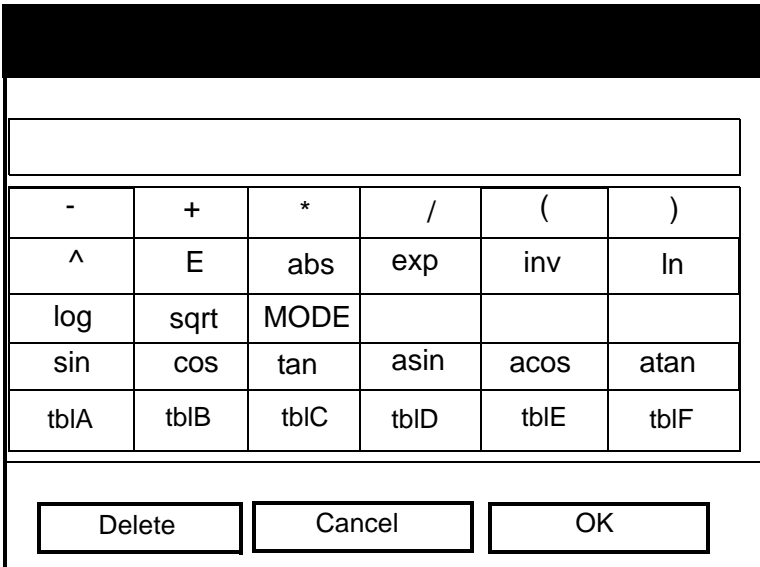

Figure 34: Function Creation Window
- d. When you have completed the label, press [F3] (OK) to confirm the label, or [F2] (Cancel) to leave the window without adding the label.
- c. When you have completed the label, press [F3] (OK) to confirm the symbol, or [F2] (Cancel) to leave the window without adding the symbol.
- a. Press [ENTER] to open the function creation window, which appears similar to Figure 34 on page 64.